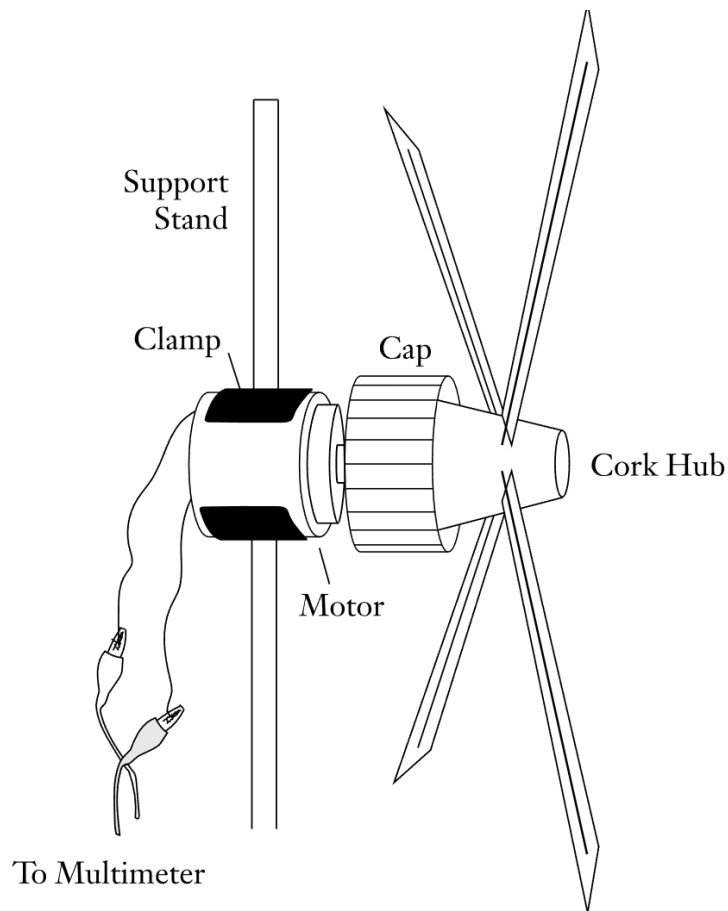

Figure 2
- k. The large end of the corks that students use for the central hubs of their rotors will fit snugly in the cap. Hold the cap securely and twist the cork into the cap to avoid bending the motor shaft. The shaft should press into the cork to help secure the cork in the center of the cap (see Figure 2).